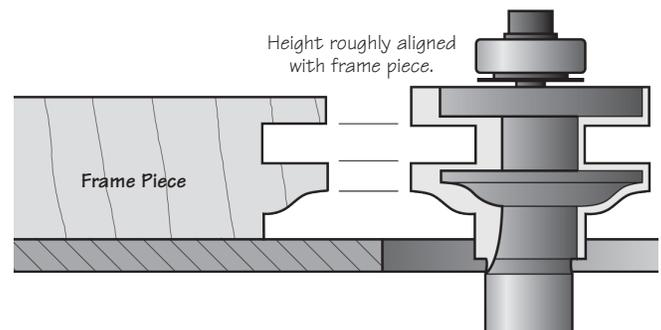

Figure 3: Set-up for coping bit.
4. Install the coping bit in the router. Adjust the bit height using a routed frame piece as a guide, as shown in Figure 3.